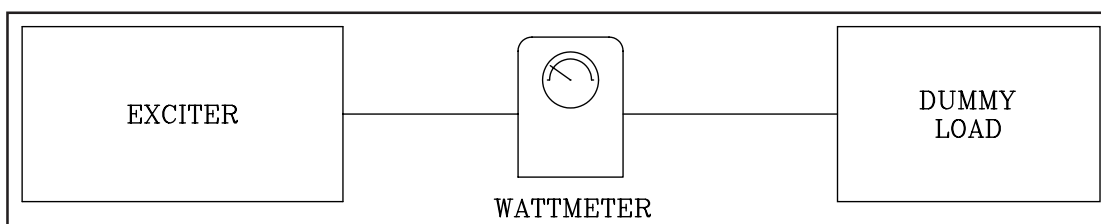

figure 10.2
- After the RF power module replacement, connect the setup shown in (see figure 10.2).